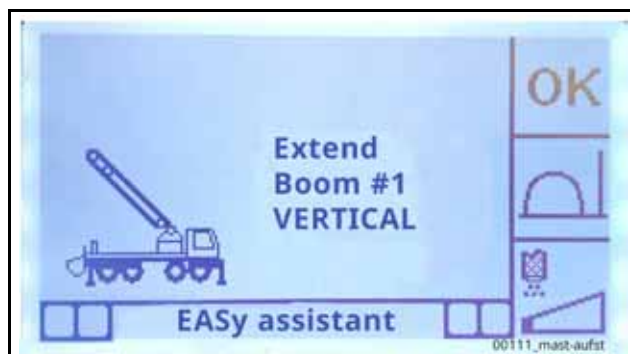

Fig. 531
- Fold up the placing boom so that boom section A can be raised vertically (**Fig. 531**).